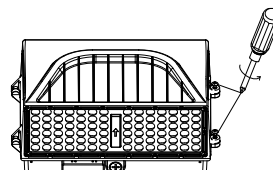

Figure 31
11. Close the fixture and secure it with the two (2) screws loosened in step 2. (see Fig. 31)